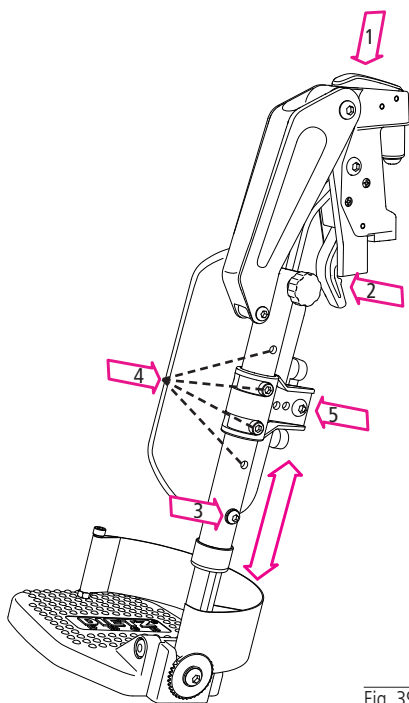

Fig. 39
2. To swivel the leg rests away, press the push button (1, Fig. 39) or pull the locking lever (2, Fig. 39) forwards.
1. Loosen the hexagonal screw (3, Fig. 39) by one or two turns. The foot plate tube is now free and can be slid upwards or downwards.
1. Loosen the two socket head screws in the calf pad holder (4, Fig. 39)
3. Loosen the hexagonal screw (5, Fig.39) for the height adjustment.